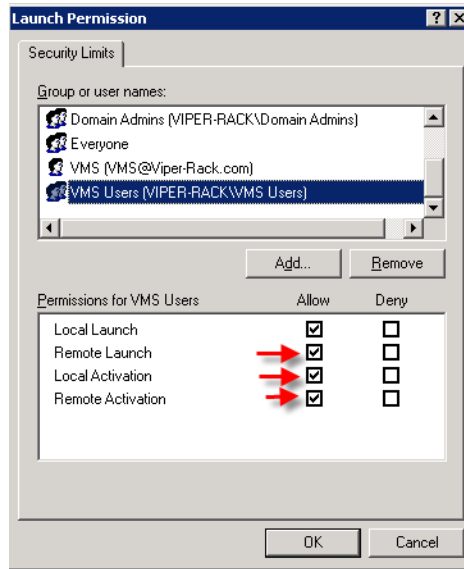

Figure 2-45 Launch Permissions
- Check all of the **Allow** boxes for VMS Users, as shown in figure 2-45.